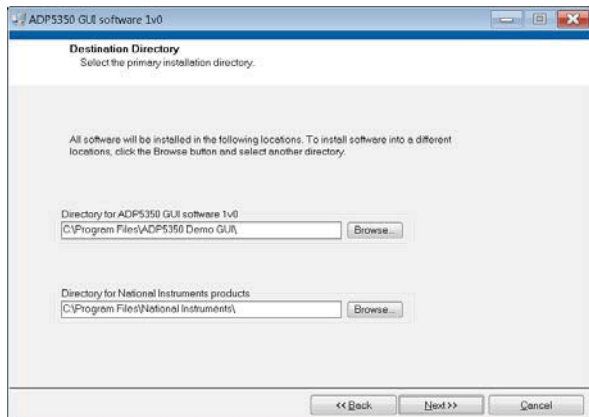

Figure 3. Choose Destination Location
2. Click **Next** to install the files to the default destination folder or click **Browse...** to choose a different file (see Figure 3).